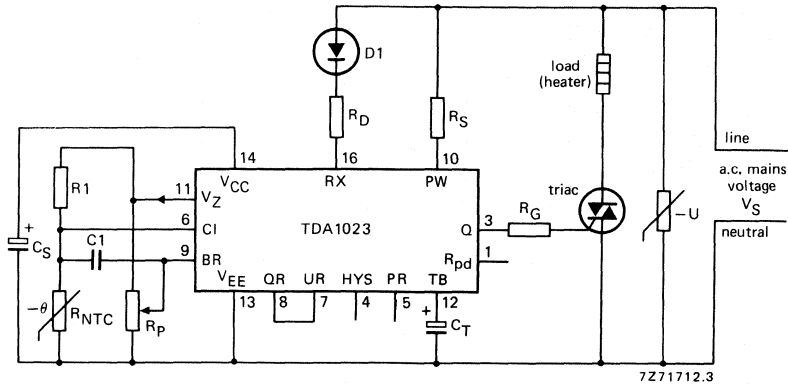

Fig. 15 The TDA1023 used in a 1200 to 2000 W heater with triac BT139. For component values see Table 3.
**Table 3** Temperature controller component values (see Fig. 15).